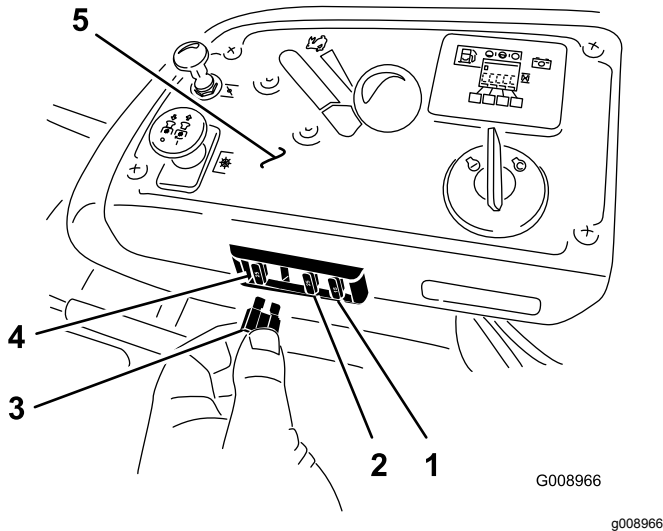

Figure 59
The fuses are located on right console next to the seat (Figure 59).
2. Install a new fuse (Figure 59).